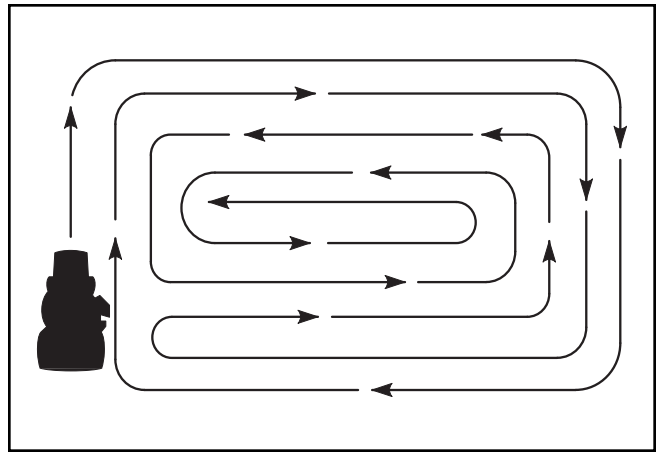

Figure 18: Mowing tips
8. When you mow large areas, start by turning to the right so that the cut grass will discharge away from shrubs, fences, driveways, etc. After one or two rounds, mow in the opposite direction making left turns until finished (Figure 18).